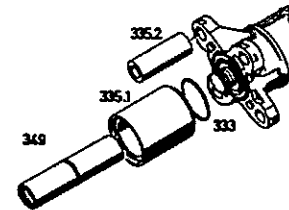

Fig.2
Remove pipes (335.1 and 335.2). Dismantle O-ring (333) (*Fig.2*).